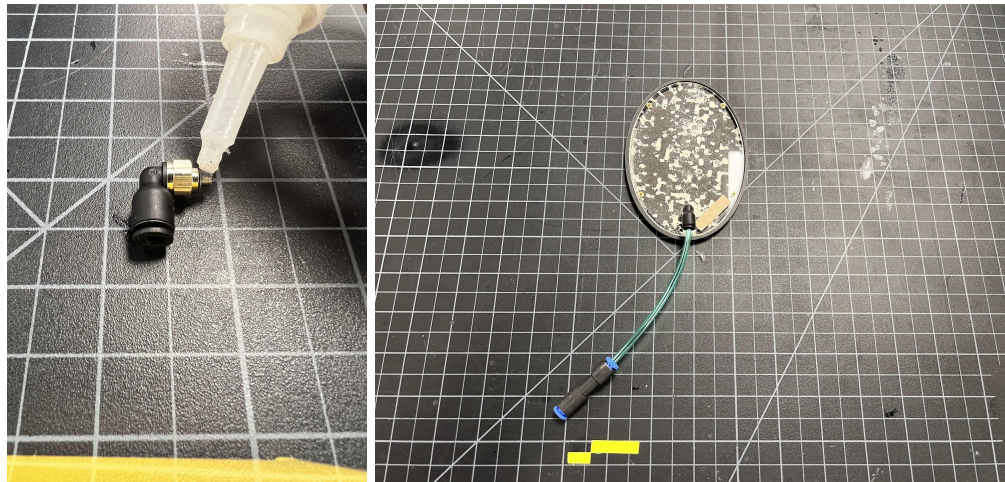

Figure 64: Application of CA glue to right-angle connector, and a completed assembly of a bubble module
23. Place a small amount of high-viscosity cyanoacrylate (CA) glue onto the metal thread of the right-angle connector of Bubble Fitting-Tubing Assembly. Attach the Bubble Fitting-Tubing Assembly by hand-tightening the thread fully into the tapped hole at the bottom of the acrylic window. Once tightened, the fitting should be able to freely spin; adjust the direction of the tubing to its final position facing towards the closest edge of the eclipse (Figure 64).